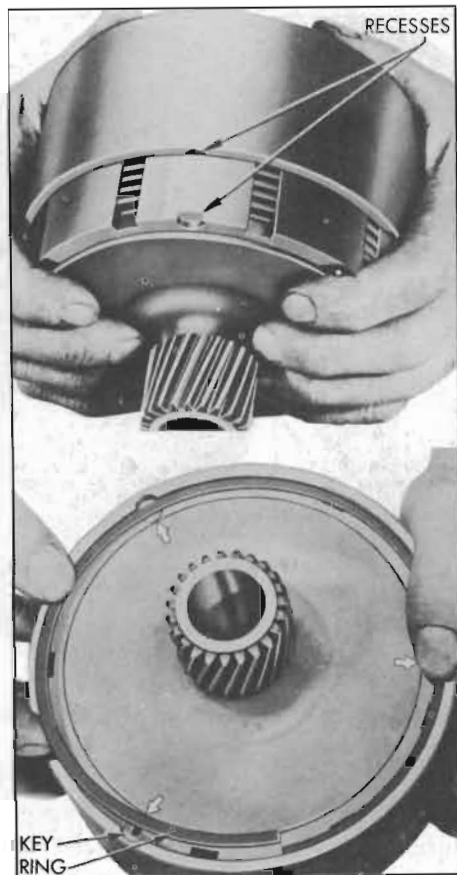

Figure 4-117—Installing Drum Over the Reaction Gear Flange
6. Place the drum and clutch piston assembly over the reaction gear flange so that the driving key recesses in drum and flange are approximately aligned. See figure 4-117. Press the drum evenly into place over the reaction gear flange.
7. Complete the alignment of driving key recesses by tapping the reaction gear flange, then install the 3 driving keys and the reaction gear flange retainer ring. See figure 4-117.